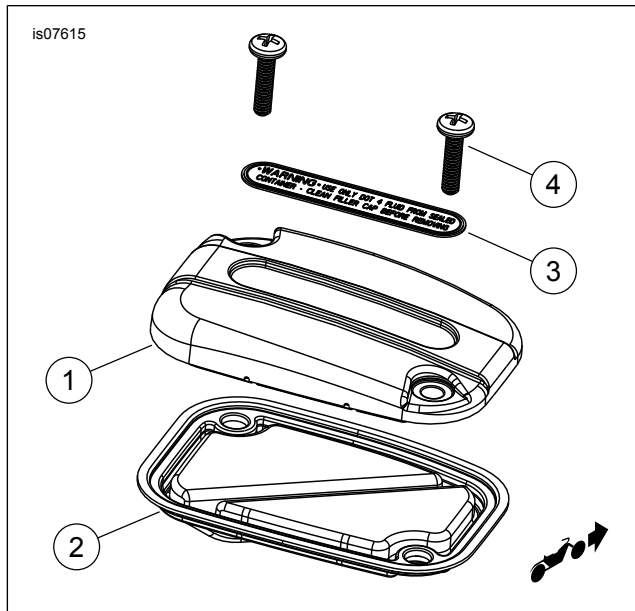

Figure 1. Service Parts: Clutch Master Cylinder Cover Kit
See Figure 1 and Table 1.
6. See Figure 1. Note the shape of the master cylinder cover. One end is thinner than the other. With the thinner end positioned above the brake line fitting, install the cover (with gasket compressed) Fasten the cover and gasket to the reservoir with two screws (4). Tighten the screws to 1.4–1.7 N·m (12–15 in-lbs).